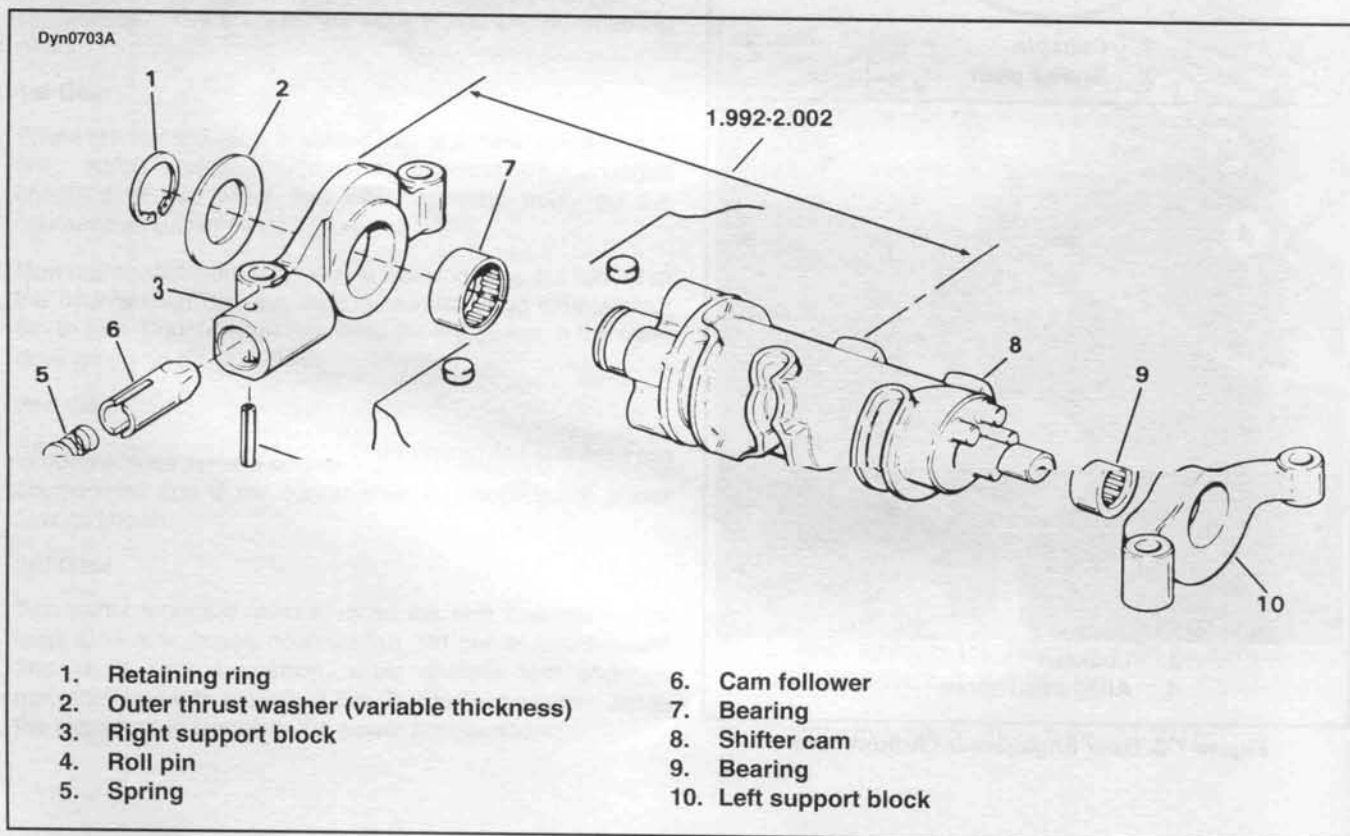

Figure 7-4. Shifter Cam Assembly
3. See Figure 7-4. Remove the four hex head screws and washers to free the right (3) and left (10) support blocks. The left support block (10) is a slip fit on the cam and will slide off.
1. See Figure 7-4. Clean all parts except bearings (7 and 9) with solvent. Blow dry with compressed air.
4. Inspect shifter cam (8) for cracks or wear and replace if necessary.
2. See Figure 7-4. Slip left support block (10) on small end of shifter cam.
3. See Figures 7-4, 7-6. Use a feeler gauge and check end play of shifter cam (8). If end play is not 0.001-0.004 in. (0.025-0.10 mm), remove OUTER thrust washer (2) and replace it with a thinner or thicker one. With proper end play, thrust washer (2) should turn freely.